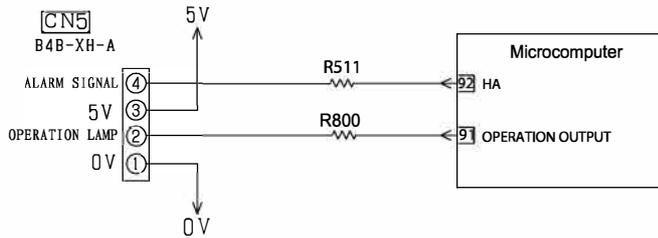

Fig.12-1
Fig.12-1 is the control circuit of run status and signal output in main PWB. The pin ② of CN5 is used to show run status and the pin ④ of CN5 is used to warn people when failure occurrence. If customer want to use this function, need to use the adapter (sold separately) to achieve it. The adapter is optional and the detail circuit refer to following circuit.